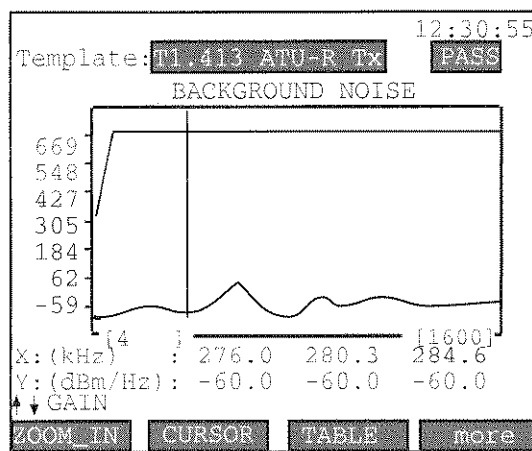

Figure 6-7 Background Noise- BRIDGE Mode
- 6) After connecting to the circuit, press START (F3). A sample screen appears in Figure 6-7.
- Each template is displayed on the 2nd line of the screen. In Figure 6-7, ATU-R TX is displayed. This template is based on ANSI standard T1.413.
- A pass/fail indicator is displayed right next to the template type. This PASS/FAIL refers to the cursor position only. To check if the overall signal meets the background noise requirement, check the graphic and verify that the signal does not overlap (cross above) the template mask. For example, in Figure 6-7, the cursor is at 271 kHz; the PASS refers to this frequency only. You can move the position of the cursor with the right and left arrow keys.